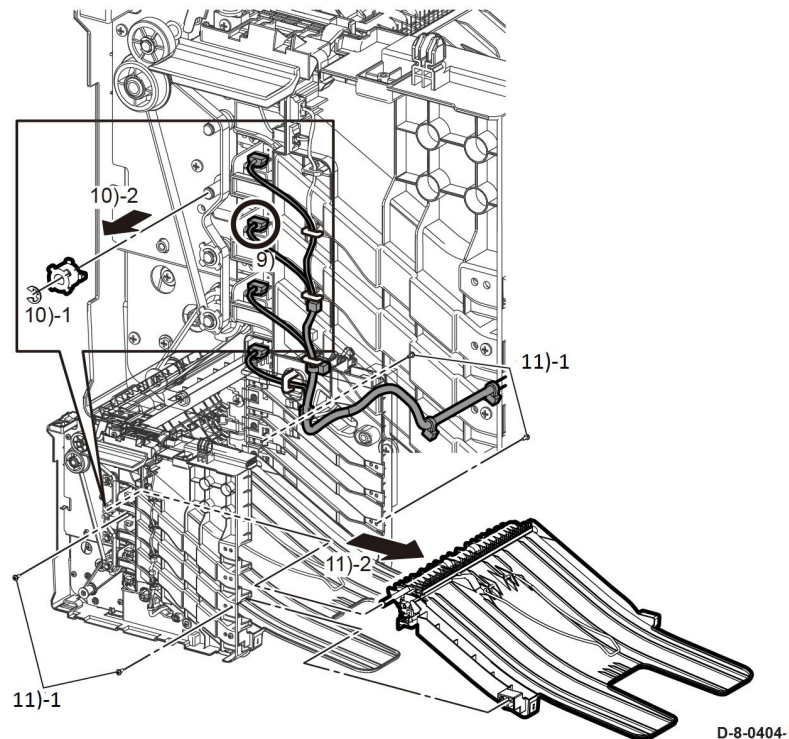

Figure 3 2nd tray assembly
9. Disconnect connector P/J8933, Figure 3.
10. Remove the items that follow, Figure 3:
11. Remove the items that follow, Figure 3: